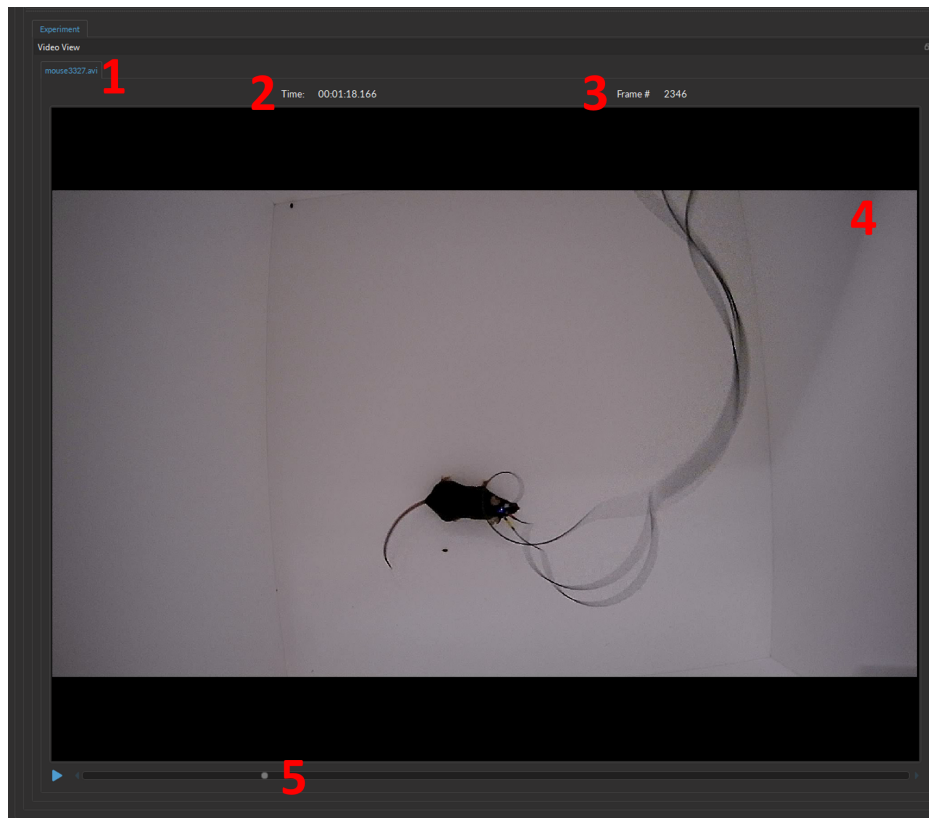

Figure 11.13: Video View
The **Video View** (Fig. 11.13) displays the video feed once a video is loaded into the module. Users can scroll through the video frame-by-frame or play the footage at a set frame rate.
1. The **Video tab** (Fig. 11.13, 1) allows multiple video files to be simultaneously loaded into the module. Each video file will have its own tab, labeled with the filename (e.g. *mouse3322.avi*). Only one video can be viewed at a time. To switch between loaded videos, select the tab of choice.
2. The **Time** (Fig. 11.13, 2) displays the timestamp associated with the current frame (in hh:mm:ss:zzz).
3. The **Frame #** (Fig. 11.13, 3) displays the index of the current frame within the entire video.
4. The **Current frame** (Fig. 11.13, 4) is where the image associated with the **Frame #** of the video is displayed.
5. The **Current Time Bar** (Fig. 11.13, 5) allows users to quickly hop between frames. Use the play button (on the left of the bar) to run the video at a normal frame rate. The **Time** and **Frame #** will be automatically updated when moving the cursor within the **Time Bar**. Note that moving